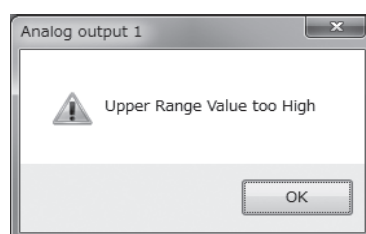

Fig.187
- ② If a mistake is discovered in settings on the transmitter side after the setting items are inputted and the "OK" button is clicked, then the error box shown in Fig. 187 will be displayed. Click the "OK" button and correct the mistaken input. Also note that if an input error is discovered on the transmitter's side, then a message will be displayed with error details, so use this as a guide when correcting the input.